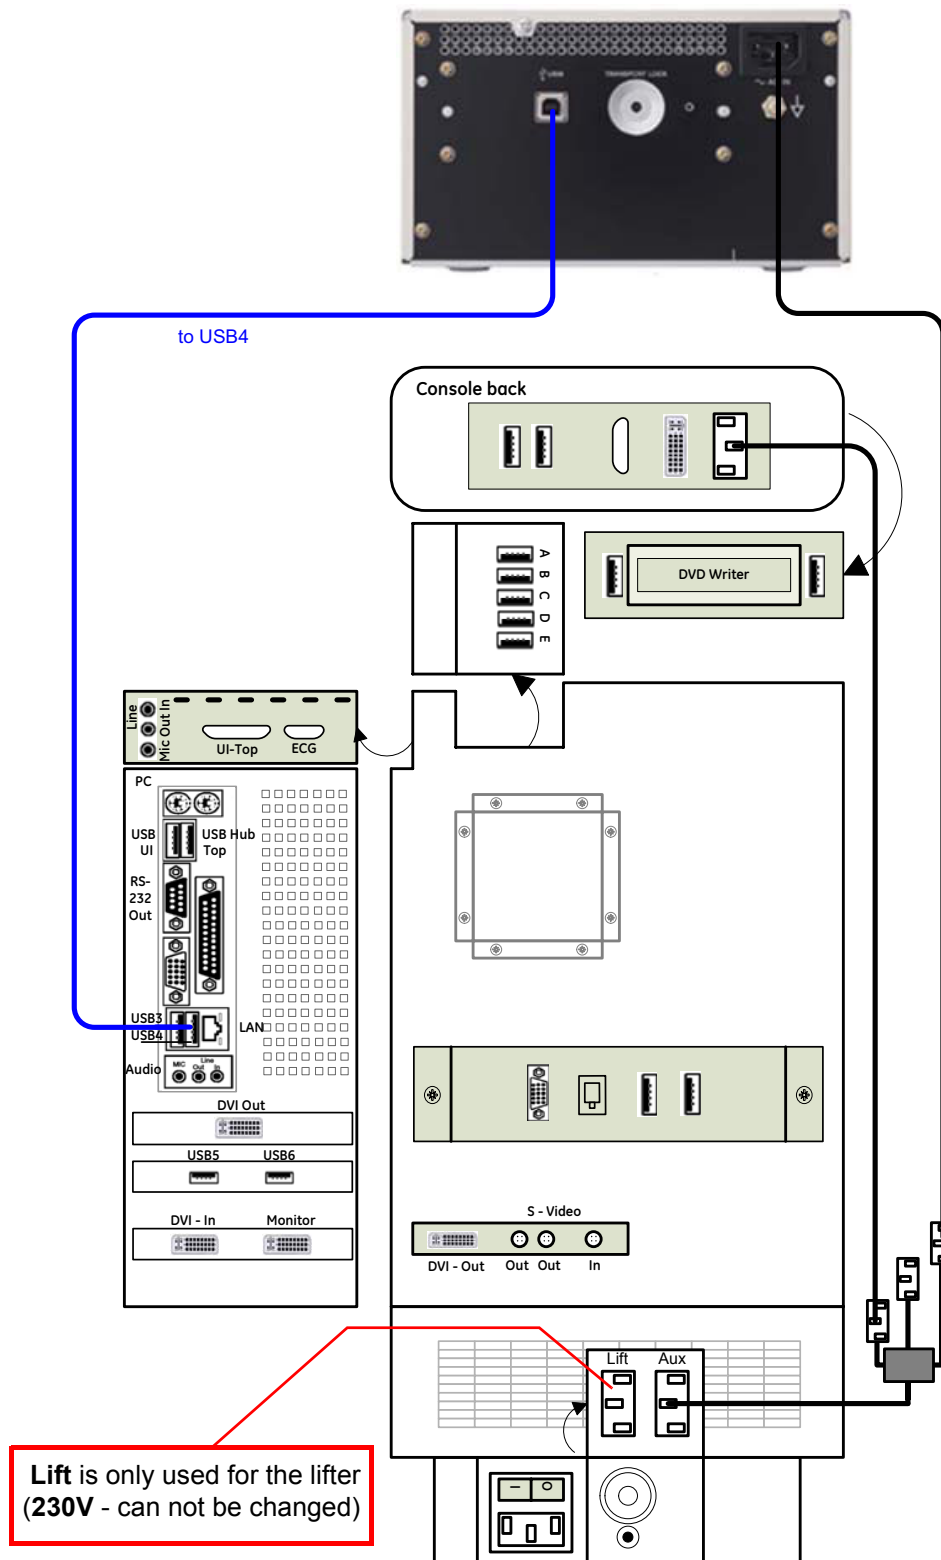

Figure 3-11 Color Printer connection (BT06: KONTRON PC-Motherboard installed)
- if “**Kontron**” PC-Motherboard is installed, see: Figure 3-11 on page 3-17.